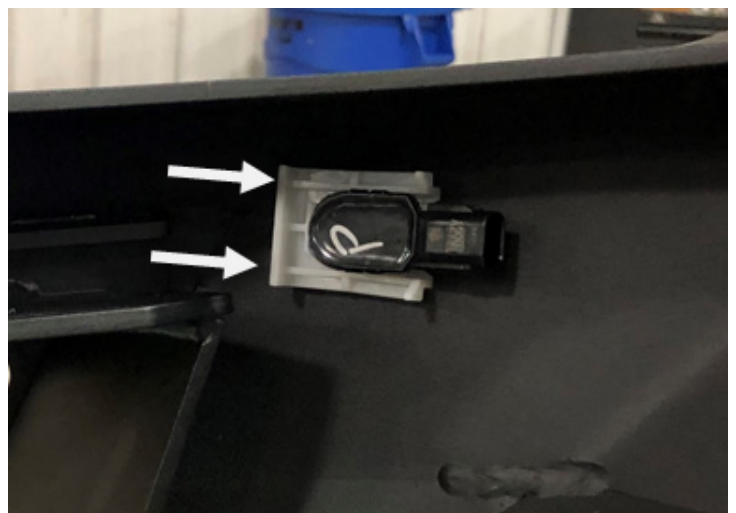

Figure 10
11. Install both sensors into the bumper in the opposite manner as removed from the OEM bumper. (Figure 10.)